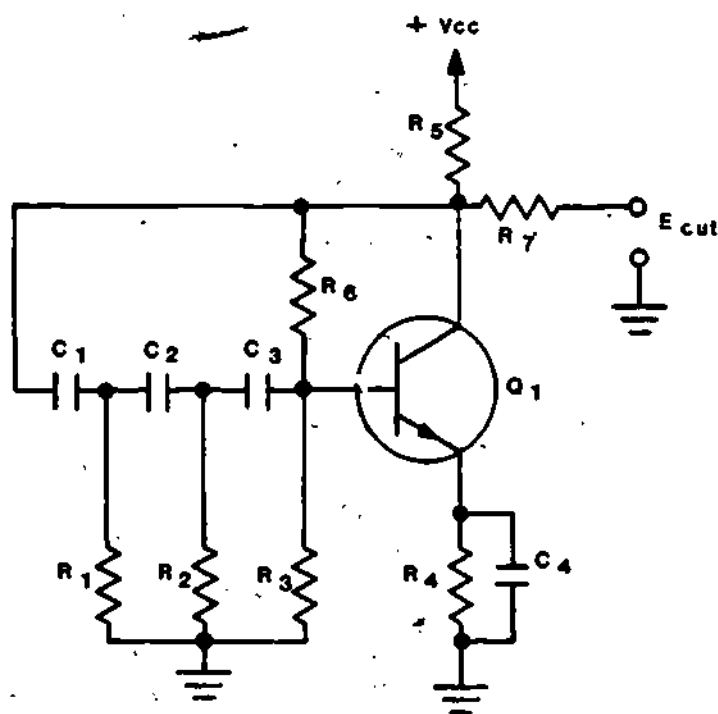

Figure 7
12. Refer to the schematic shown in Figure 7.